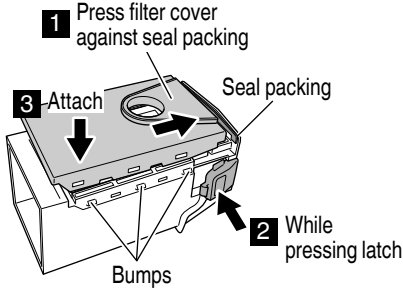

Fig. 18
- (3) Press the filter cover against the seal packing of the dust box. While pressing the latch, attach the filter cover so that it fits into the bumps of the dust box, making sure that the latch does not get in the way of the filter cover. (Fig. 18)